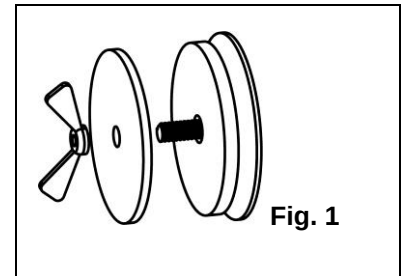

Fig. 1
4. Install one (1) hole seal onto each of the three remaining holes in the box by removing the wing nut from the seal and placing the slightly domed steel cover with the rubber seal on the outside of the box and the retaining washer and wing nut on the inside of the box. Tighten the wing nut snugly while insuring that the hole seal does not move off-center which may affect sealing of the unit (see Fig. 1).